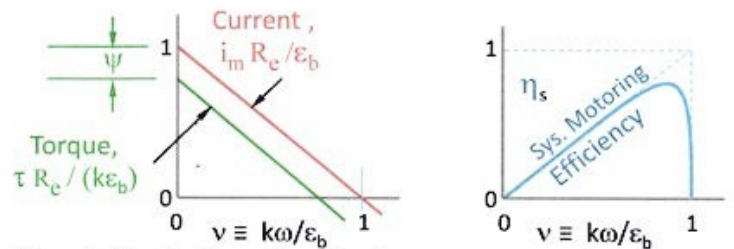

Figure 6. Sketch of non-dimensional parameters, motoring.
The system of Eqs. (1, 2), with any number (m) of machines connected to a battery or Voltage supply, is represented graphically in Figure 6 for the case of motoring. Although an exaggerated, fixed torque loss is depicted, such may vary with speed and other effects if they are known. Note that a 1% loss of stall torque typically yields a 10% loss of optimal-operating torque, then giving 90% peak efficiency.
Non-dimensionalization of the system parameters, together with focus on optimal efficiency, leads naturally toward a process for optimization, beginning with simultaneous solution of Eq. (1a) and the left-hand portion of Eq. (1c). First equating with these equations the battery EMF gives the *operating* motor current of Eq. (3a). Second, equating the motor current gives the *operating* EMF of Eq. (3b). Factoring the two equations obtains the necessary power balance. Finally, Eq. (3c) provides the corresponding EMF constant. Now for *optimal* conditions, we see in Figure 6 that both speed ratio and system efficiency will be about 0.9, set by Eqs. (2), and inserted into Eqs. (3).